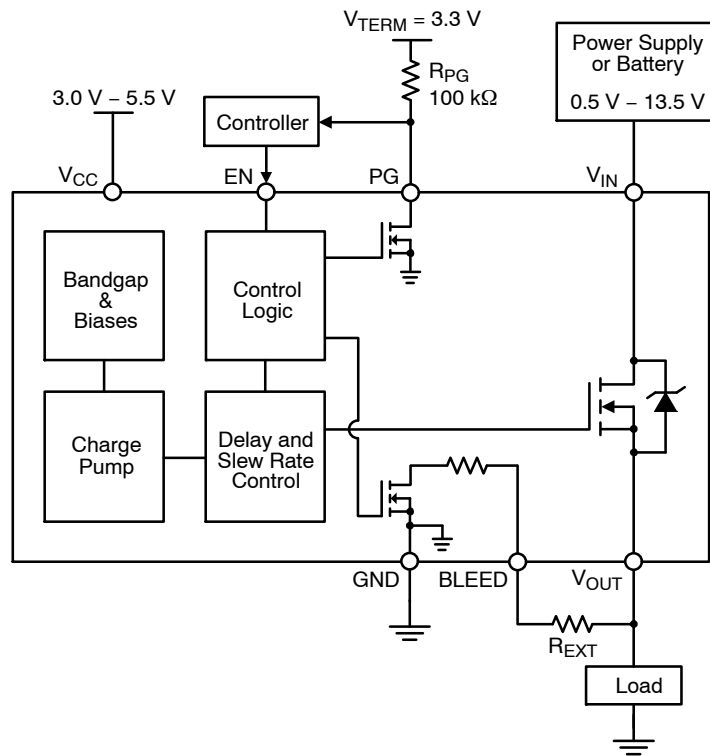
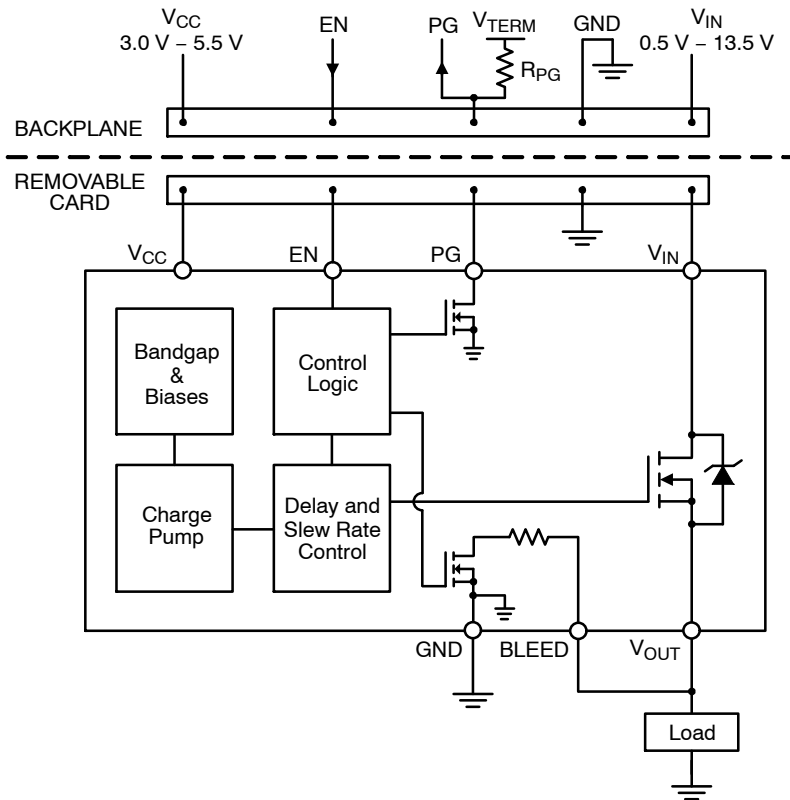

Figure 3. NCP45524 Typical Application Diagram - Load Switch
Figure 4. NCP45524 Typical Application Diagram - Hot Swap
In order to realize this functionality, the BLEED pin must be connected to V_{OUT} either directly (as shown in Figures 4 and 7) or through an external resistor, R_{EXT} (as shown in Figures 3 and 6). R_{EXT} should not exceed 1 k Ω and can be used to increase the total bleed resistance.
The NCP45524 devices have a power good output (PG) that can be used to indicate when the gate of the MOSFET is fully charged. The PG pin is an active-high, open-drain output that requires an external pull up resistor, R_{PG} , greater than or equal to 1 k Ω to an external voltage source, V_{TERM} , that is compatible with input levels of all devices connected to this pin (as shown in Figures 3 and 4).